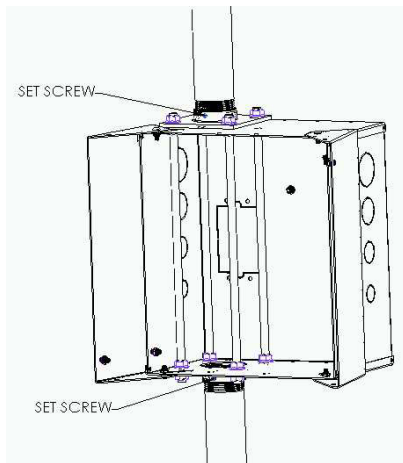

Figure 1. CMA-160 Installed
1. Install the job box securely between two 1½” NPT pipes. (**SEE WARNING ABOVE**) by threading the job box onto one pipe and threading the second pipe into the job box (see Figure 1).
2. Install and securely tighten both 10 – 24 socket set screws (see Figure 1).